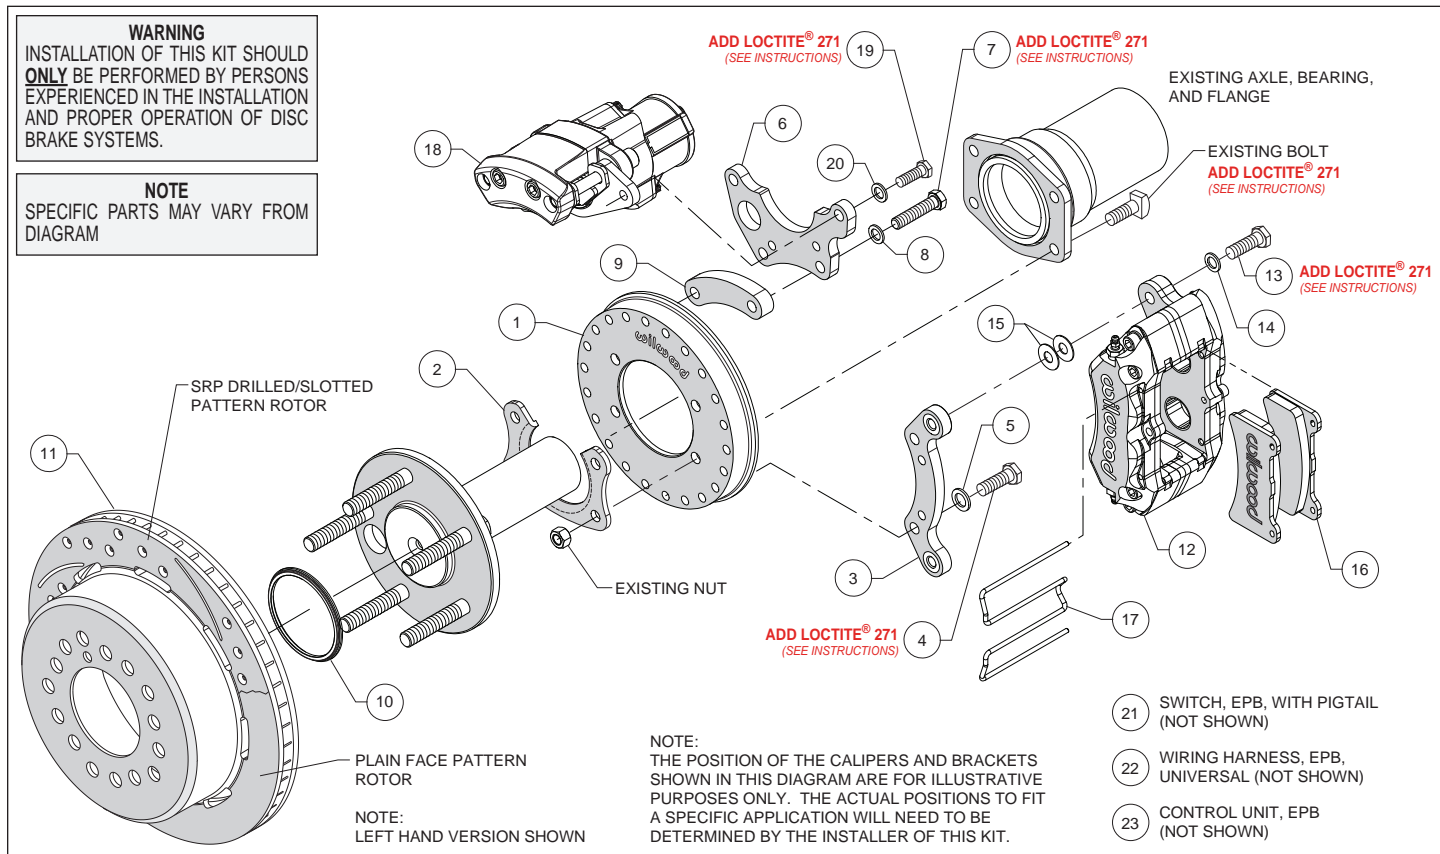

Figure 1. Typical Installation Configuration
(numbers in parenthesis refer to the parts list, and Figure 1 on the preceding pages):
- Orient the backing plate (1) as shown in Figure 1 and Photo 1, and slide it onto the axle housing flange. Ensure the backing plate fits flush against the axle housing flange. Reinstall the axle into the axle housing.
- Install the bearing retainer (2) with the opening pointing upward and the lip facing inward (toward the bearing), as shown in Figures 1 and 4, and Photo 2. Secure retainer and backing plate to the axle housing flange using the Original Equipment Manufacturer (OEM) bolts and nuts, Figure 1 and Photo 3. Apply red *Loctite*® 271 to the OEM bolt threads and torque to OEM specifications.